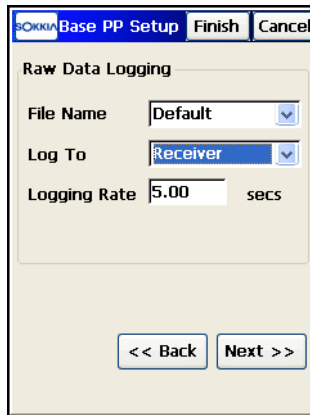

Figure 4-57. Base PP Setup
- Set Raw Data Logging parameters: select a file name, device where raw data is logged, and the logging rate (Figure 4-57 on page 4-46). Tap **Next**.